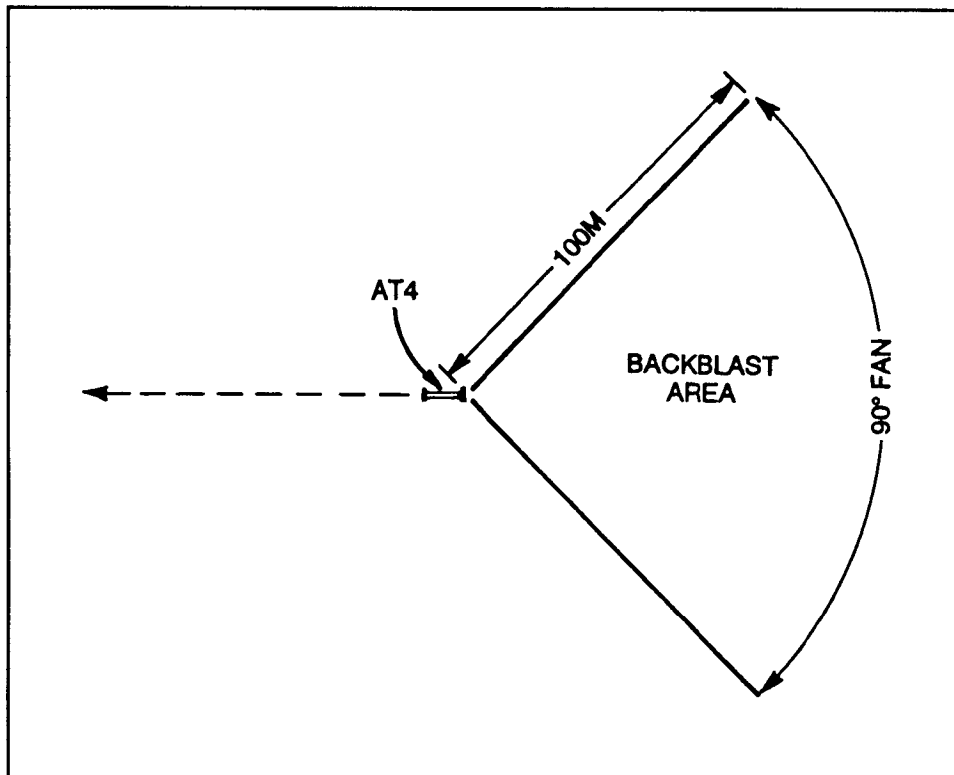

Figure A-2. M136 AT4 backblast area.
(2) **M136 AT4.** Because the AT4 has a closed chamber, it has a slight recoil. When the weapon is fired, pressure builds up in the chamber and ruptures the baseplate. Once the baseplate ruptures, gasses exit from the back of the weapon, forming the backblast. The total backblast area extends 100 meters to the rear of the launcher in a 90-degree fan (Figure A-2). During training, the *entire* backblast area should be marked off limits and kept clear of personnel and equipment. In combat, personnel may remain to the rear of the weapon, but *only* if they are in protected positions. Backblast heat or flying debris could injure the firer and other soldiers anywhere in the backblast area. *This weapon must not be fired from an enclosure or in front of a barrier* (TM 9-1315-886-12). It may be fired from an enclosure in combat only *when* no other tactical option exists.